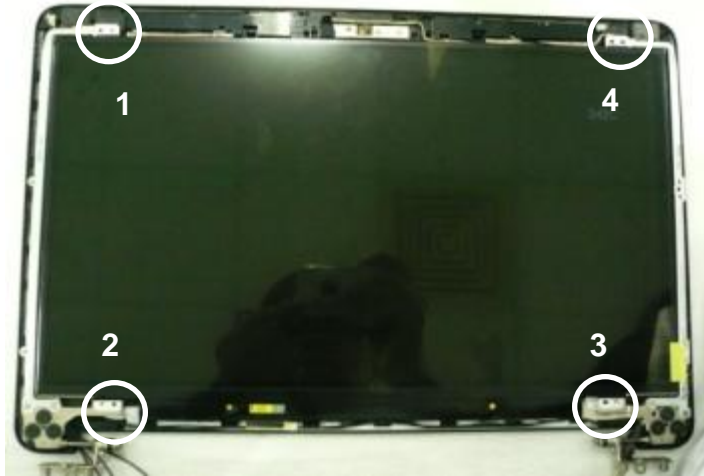

Fig.1
1. Loosen screw (6052B0120001) * 4. (Fig.1)